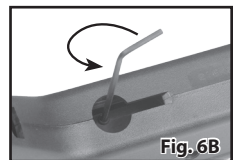

Fig. 6B
5. Using a 3/32" Allen Wrench, loosen the bleed screw by rotating counter-clockwise for a maximum of 1½ full turns (Fig. 6B).